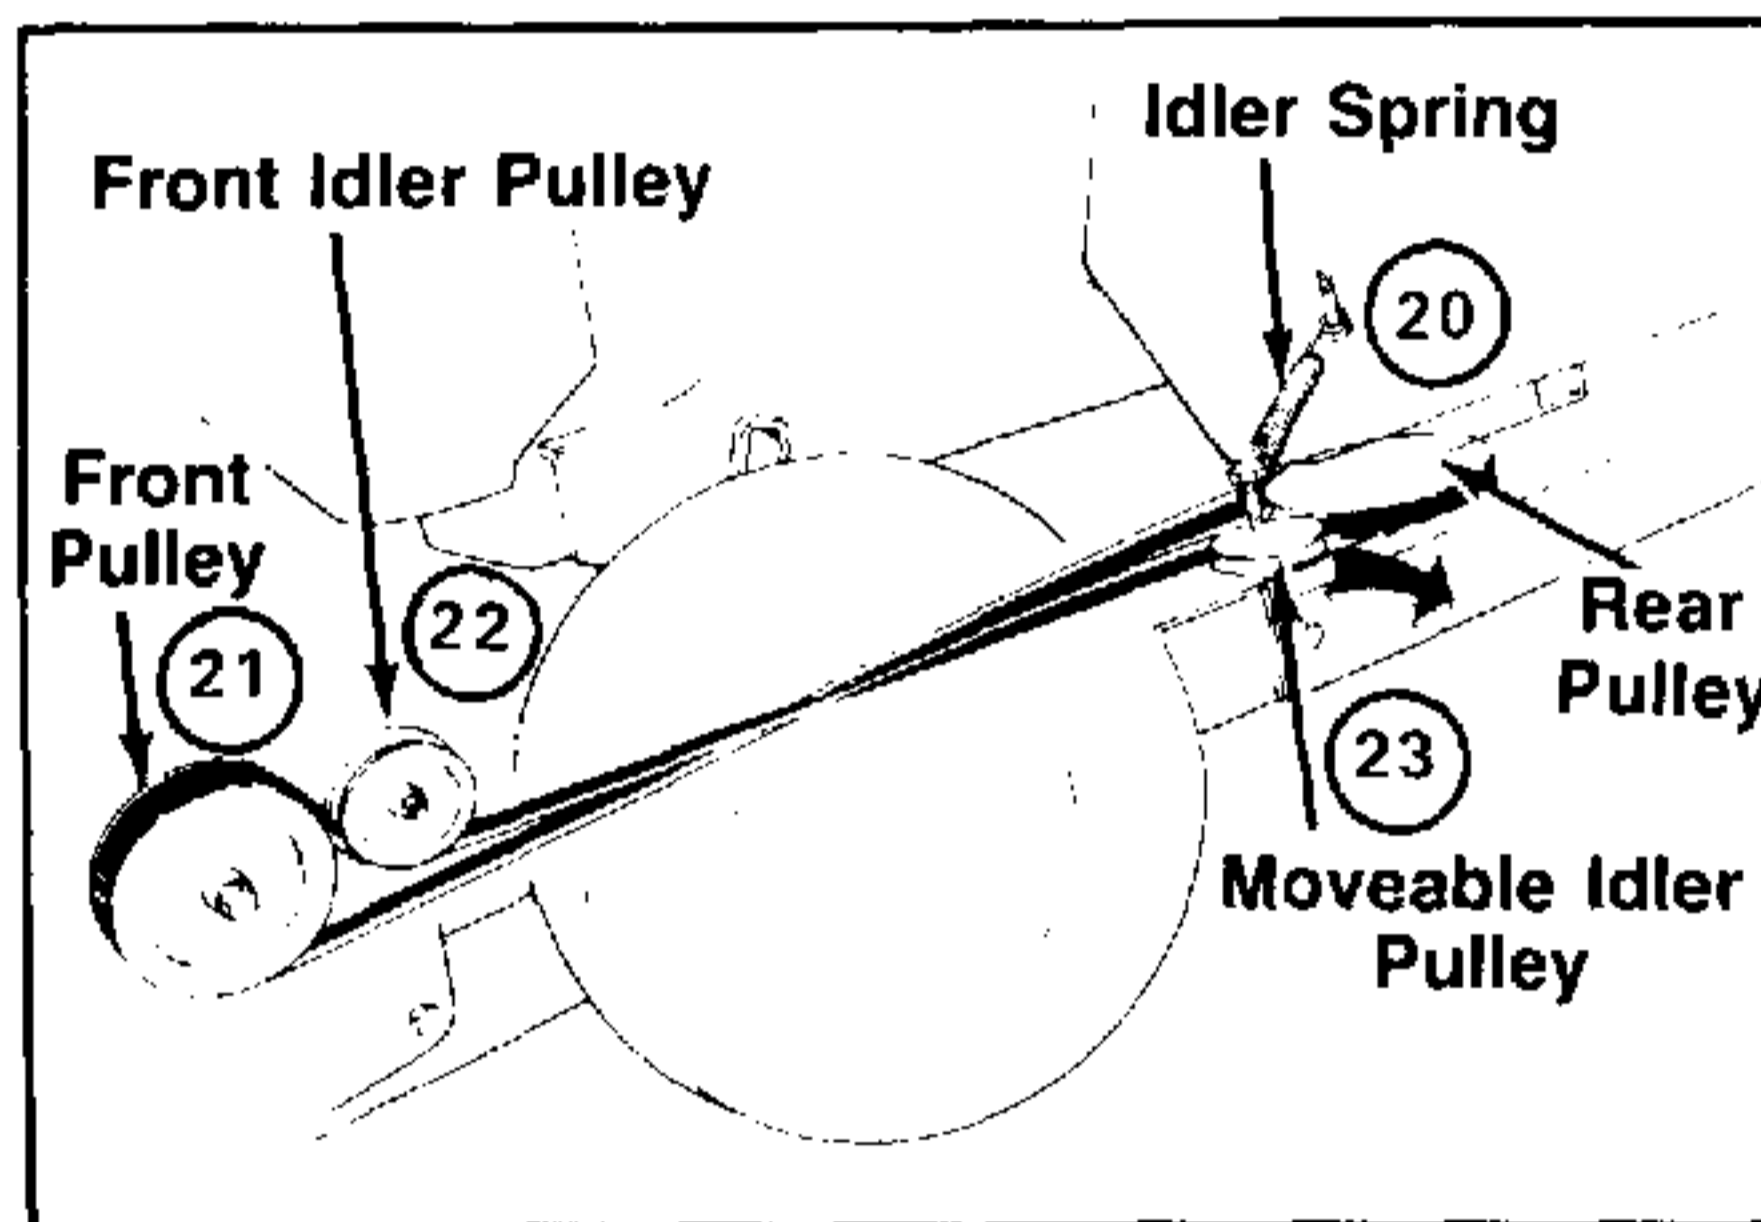

FIGURE 8.
14. Remove the idler spring from the right hand side of tractor. Place new belt around rear pulley. See figure 8.
← Belt must be assembled as shown in figure 8. Top of belt goes over rear pulley and then twist belt to the right. The bottom of the belt goes to the left. If the belt is assembled incorrectly, the auger will run in reverse.
17. Pull moveable idler pulley to the outside position and place belt in pulley. Reassemble idler spring from the right hand side of tractor. See figure 8.